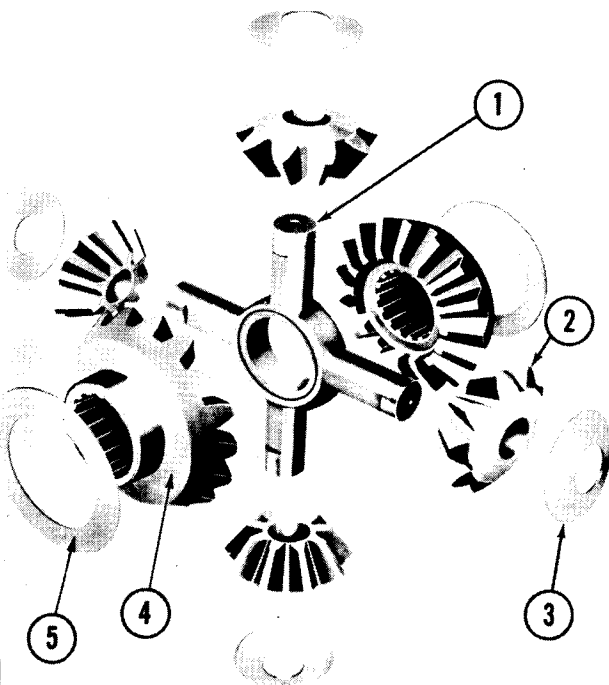

Figure 6-41
Remove the spider (1, Fig. 6-41) with spider gears (2) and thrust washers (3). The spider may be installed four ways and need not be marked before removal. Remove the remaining side gear (4) and thrust washer (5).